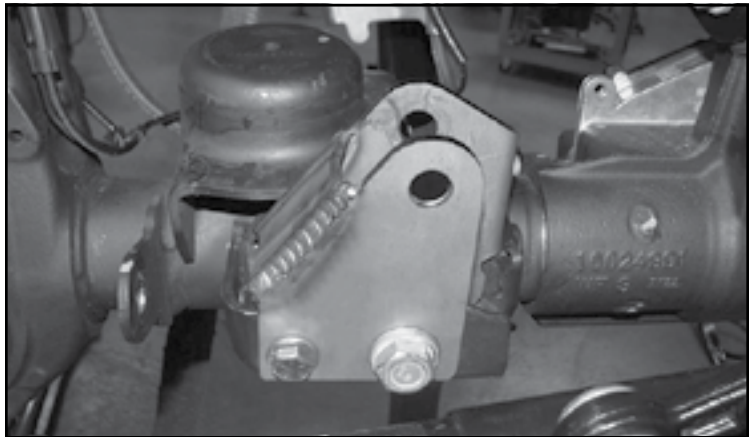

FIGURE 9 - STEP 10
10. Reinstall the bracket using the factory bolt and supplied 3/8" x 1-1/4" bolt, washer and nut. **NOTE: Install the FT50592 (Sleeve) with the factory bolt inside the new track bar bracket.** Torque factory hardware 148 ft-lbs and the 3/8 hardware to 44 ft-lbs. **SEE FIGURE 9**